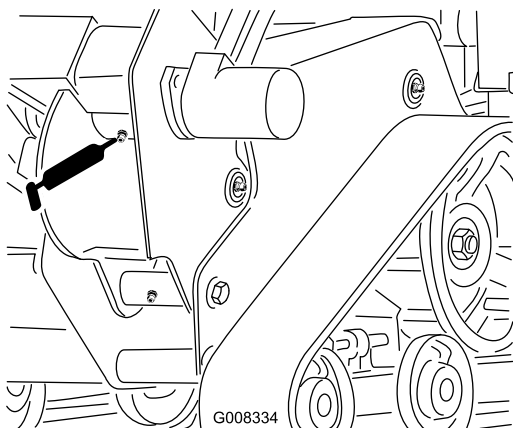

Figure 31
2. Clean the trencher housing grease fitting with a rag and connect a grease gun to it (Figure 31).